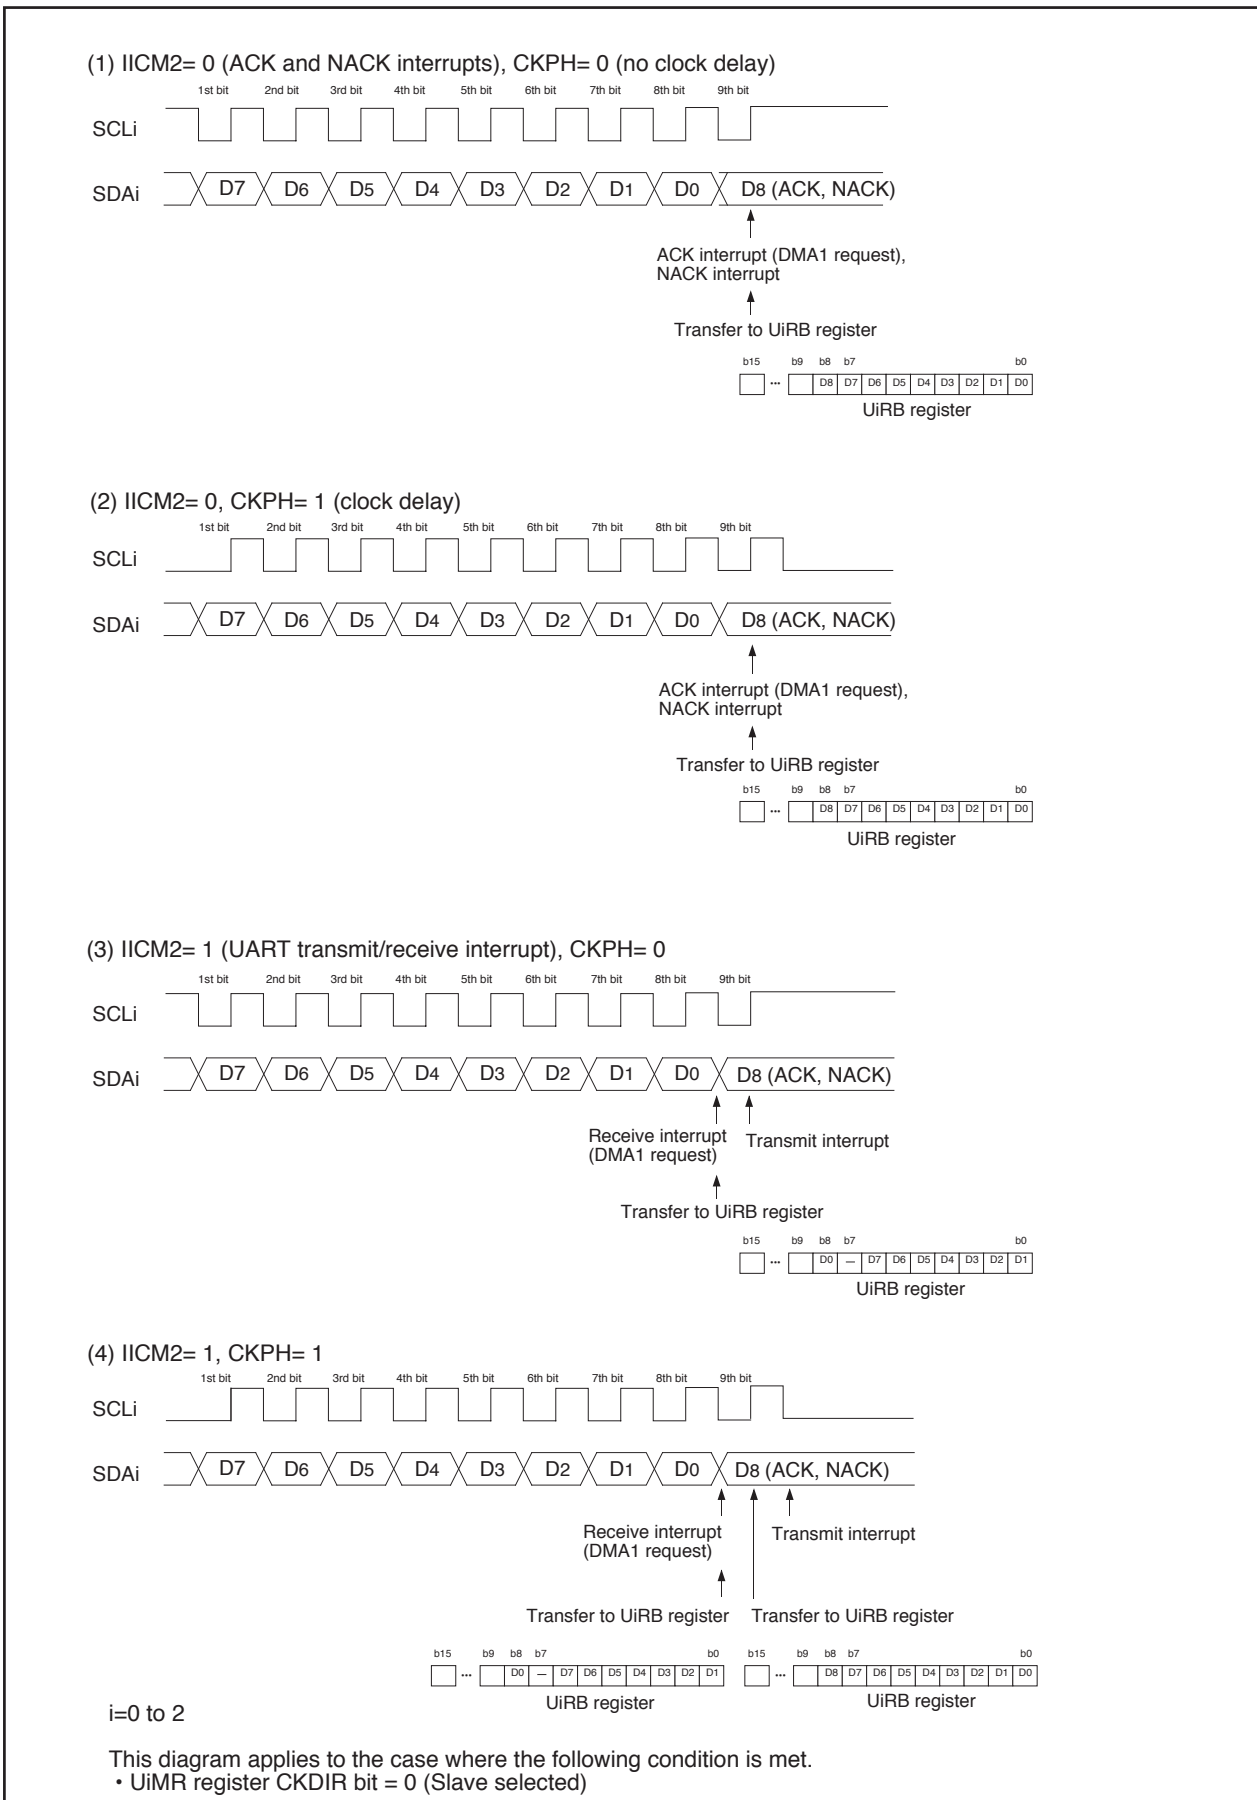

Figure 1.16.2. Transfer to UiRB Register and Interrupt Timing
- See **Figure 1.16.2 Transfer to UiRB Register and Interrupt Timing**